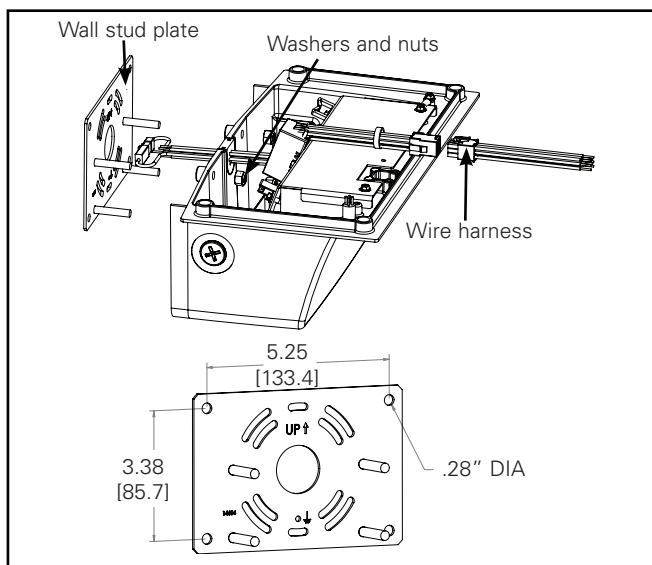

Figure 10.
- Mount the provided wall stud plate to the wall or over a junction box (junction box can be surface mounted or recessed). Use the holes in the corners of the stud plate to secure it to the wall (mounting hardware provided by others). Also use the junction box screw holes to further support the stud plate. Use care not to bend the stud plate when securing it to the wall. (Figure 10).